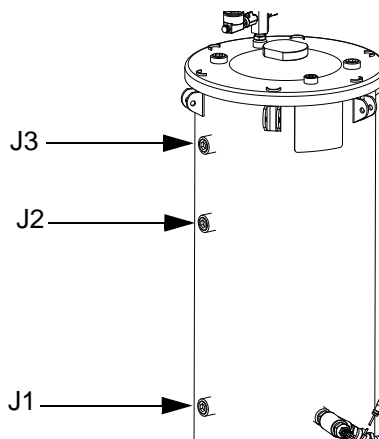

FIG. 8: Tank Ports
- Route each level sensor (H) wire (J1, J2, J3) through the corresponding well nut (CC). See FIG. 8 for wire location on tank.